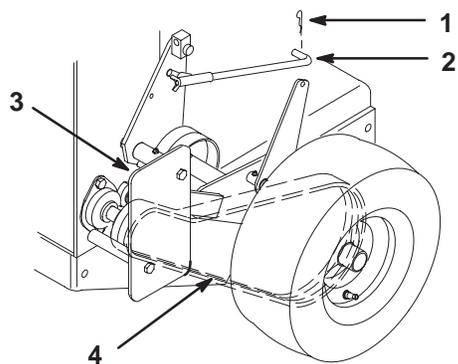

Figure 43
1. Remove hairpin cotter securing brake rod to brake arm to relax belt idler tension (Fig. 43).
2. Remove bottom and loosen top bolts of shield to rotate for belt clearance (Fig. 43).
3. Lift belt past idler and off drive pulley (Fig. 43).
6. Secure shield with previously removed bolt and tighten bolts (Fig. 43).
7. Secure brake rod to brake arm with hairpin cotter (Fig. 43).